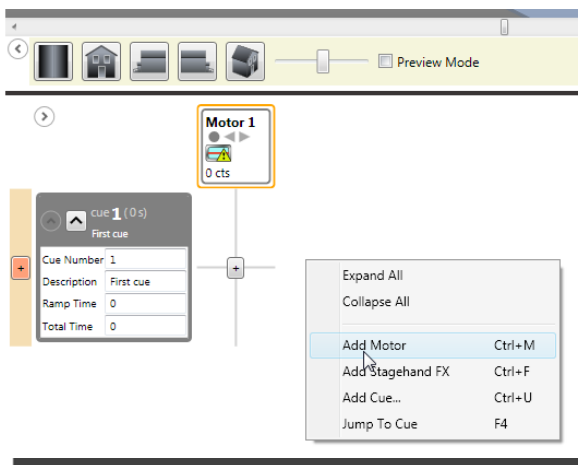

Figure 55
1. Right-click in the **Cue Grid** and select **Add Motor** (Figure 55).